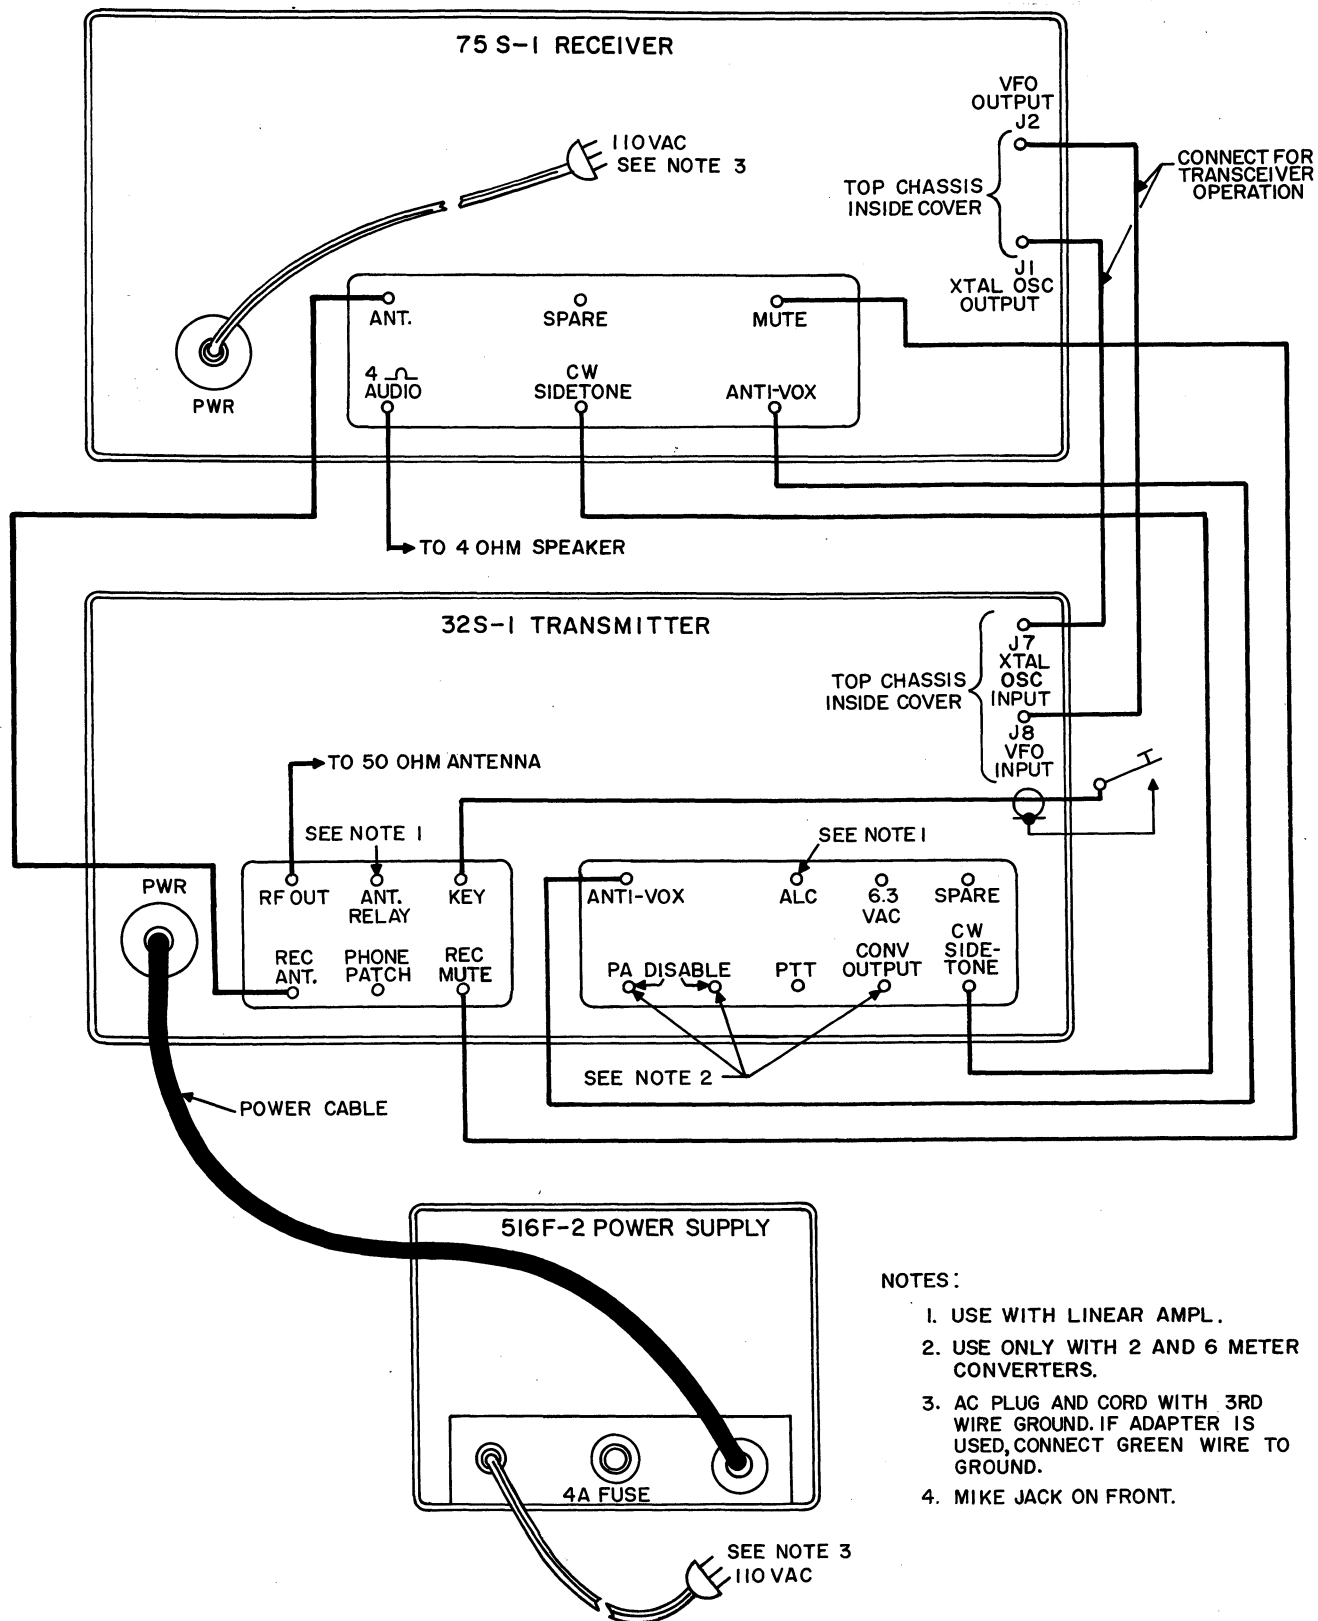

Figure 1-2. Receiver-Transmitter Interconnections
f. Switch EMISSION switch (8) to LOCK KEY position, and redip plate current with P. A. TUNING control (4).
g. Set METER switch (9) to P. A. GRID, and advance MIC GAIN (6) to produce one-quarter scale (4 db) PA grid current indication on meter (5).
h. Set METER switch (9) to P. A. PLATE. Plate current should be 250 ma at dip if antenna is 50 ohms and feed line is flat. If the feed line does not present 50 ohms (resistive) to the transmitter, adjust the INCREASE LOADING control (12), redipping plate current with P. A. TUNING control (4) after each loading adjustment until the power amplifier loads to 250 ma.
i. Set EMISSION switch (8) to CW and the transmitter is ready for CW operation.
k. If the transmitter is connected with a 75S-1 Receiver, as shown in figure 1-2, and it is desired to zero beat the transmitter to a frequency tuned on the receiver, proceed as follows: